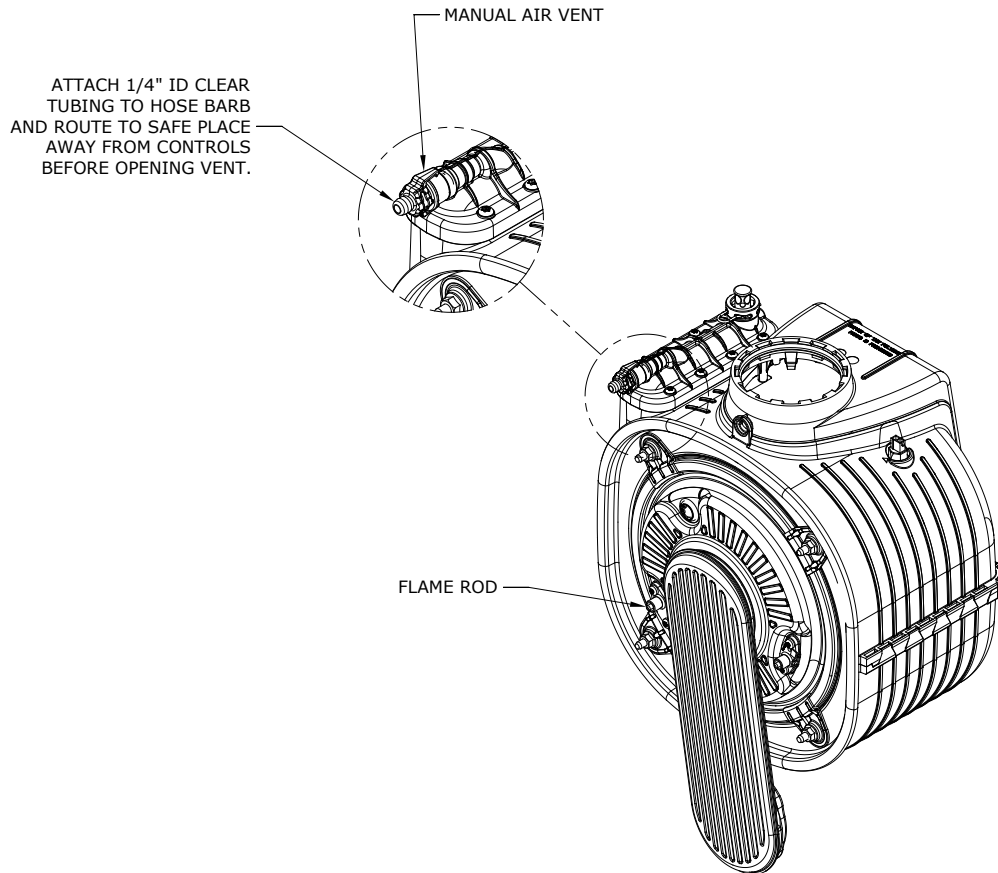

Figure 11.1: Location of Manual Air Vent
6. Bleed air from the heat exchanger using the manual air vent in the top left side of the heat exchanger (Figure 11.1). To do this install a piece of ¼" ID clear tubing over the hose barb and route the tubing to a location where water will not damage controls or nearby construction. Turn vent counter clockwise and allow heat exchanger to vent until a steady stream of water is observed. Close vent and remove hose.
17. Perform a check of the ignition safety shut-off device. With the burner firing, carefully unplug the orange flame rod wire at the flame rod using a pair of insulated pliers (Figure 11.1). The burner should shut off immediately.